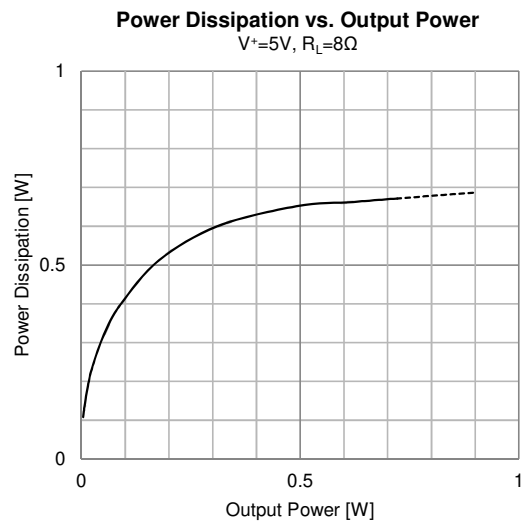

Fig. 21 Power Dissipation vs. Output Power
In the designing, power dissipation (P) should be verified in the using but temporary value is read by Power Dissipation vs Output Power on the datasheet's typical characteristics. Fig.21 shows typical characteristics under the conditions that  $T_a=25^{\circ}\text{C}$ ,  $V^+=5\text{V}$ ,  $G_v=+6\text{dB}$  and  $R_L=8\Omega$  BTL. The following are examples.
Maximum ambient temperature  $T_a$  is set by the following under the conditions that  $V^+=5\text{V}$ ,  $R_L=8\Omega$  BTL and maximum output power  $P_o=0.5\text{W}$  because maximum power dissipation (P) is approximately 0.65W by Fig. 21.
Maximum output power ( $P_o$ ) is gotten approximately 0.15W by Fig. 21 under the conditions that  $V^+=5\text{V}$ ,  $R_L=8\Omega$  BTL,  $P_D=0.49\text{W}$  and  $T_a=60^{\circ}\text{C}$ .